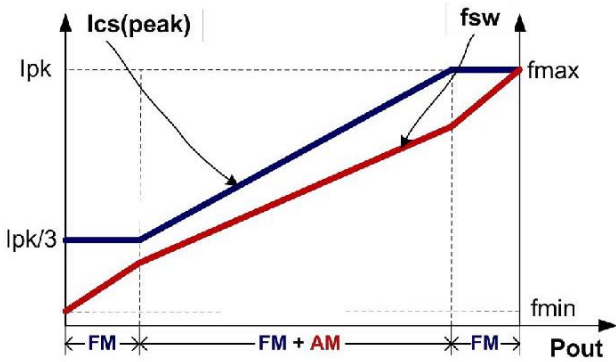

Fig.4
To meet the tight requirement of averaged system efficiency and no load power consumption, a hybrid of frequency modulation (FM) and amplitude modulation (AM) is adopted in U6215 which is shown in the Fig 4.